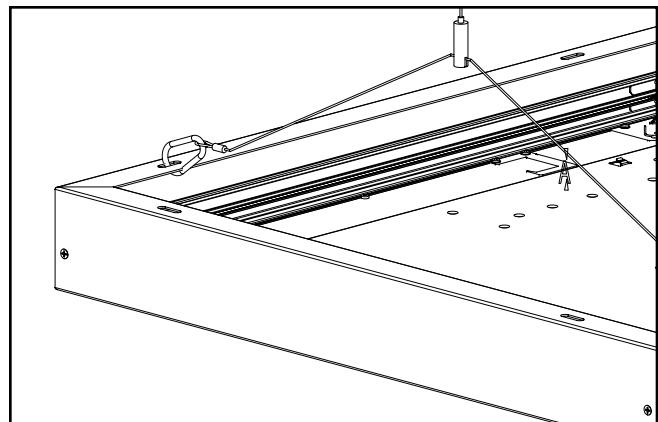

Figure 17.
2. Clip carabiners to slots in surface mount box. (Figure 17.)